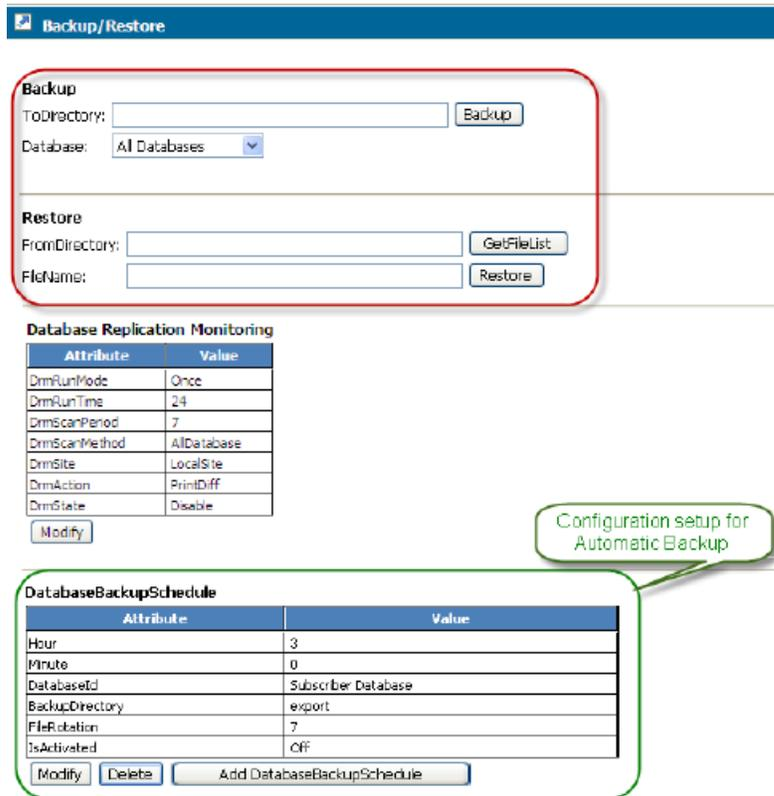

Figure 10: Backup/Restore Window
An automatic backup can be set and activated through the WebCI, with the DatabaseBackupSchedule table in the Database Configuration window (see Figure 10: Backup/Restore Window). By default, the automatic backup only backs up all the subscriber profiles data. However, when setting the schedule of the automatic backup, the Network Operator can optionally set the IncludeConfiguration parameter to ‘1’. This will set the automatic backup to back up all the configuration data in addition to all the subscriber profiles data.
The Restore view is used to restore database information onto the active System Controller (SC). Refer to Figure 10: Backup/Restore Window. A listing of the backup files can be obtained by specifying the directory name in the FromDirectory field. To restore the database, specify the file name in the FileName field.